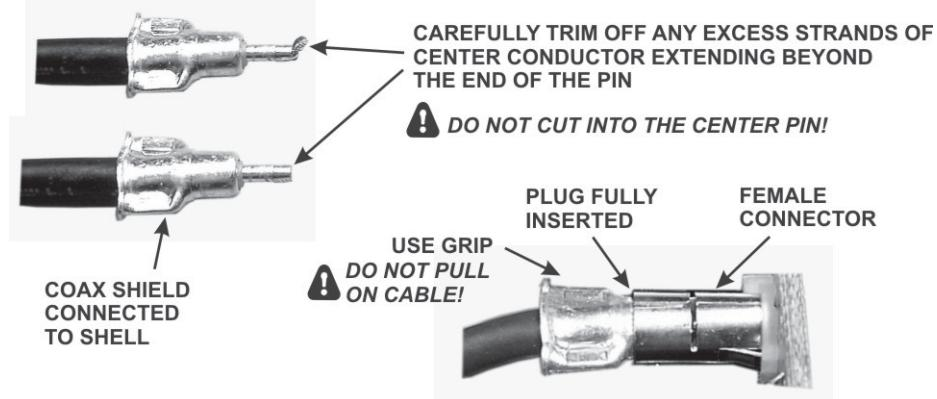

Figure 73. TMP Cable Connectors.
- Locate the three TMP cables. They are about 1/8" (3 mm) diameter coaxial cables with connectors at each end as shown in Figure 73. Check each cable and trim any excess center conductor strands extending beyond the end of the pin as shown. This will make mating the connectors much easier.
- Install the three TMP cables between connectors on the KREF3 board, the main RF board and the KSYN3 board as follows. Handle the connectors by the finger-grip area shown in Figure 73, especially if you unplug a connector. ***Do not pull on the coaxial cable to unplug a connector!*** When mating the connectors, be sure the plugs are fully inserted as shown in Figure 73. To make the connectors easier to mate, first be sure the center pin is seated in the socket, then you may twist the connector back and forth while holding it by the metal ears if needed to seat it fully as shown in Figure 73.